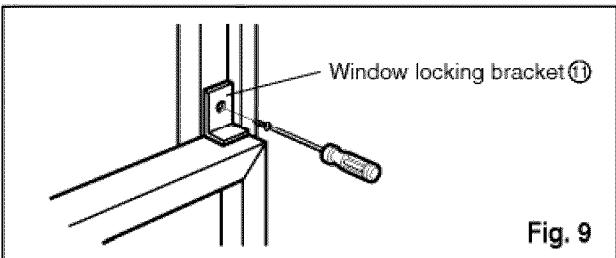

Fig. 9
12. Attach the window locking bracket ⑪ with a type C screw. (See Fig. 9)